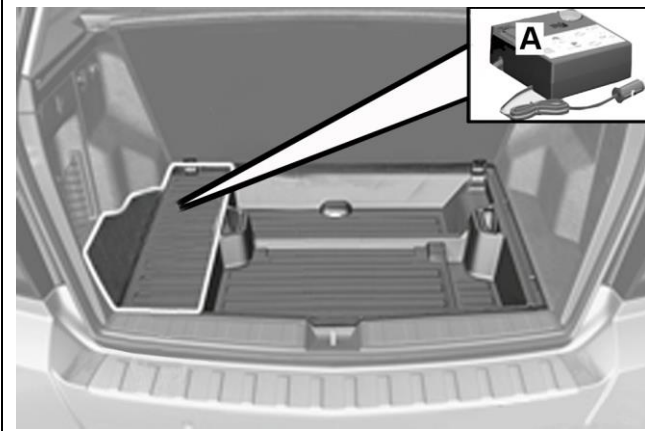

Figure 1
2. Check if complete Tire Fit kit consisting of: Air pump (A, Figure 1) and tire sealant container (B) is installed in luggage compartment:
- If **both** air pump (A, Figure 1) and tire sealant container (B) are installed, proceed to step 4.
- If air pump (A, Figure 1) and/or tire sealant container (B) are missing proceed to step 3.
- If **both** air pump (A, Figure 1) and tire sealant container (B) are installed, Proceed to step 4.
- If air pump (A, Figure 1) and/or tire sealant container (B) are missing proceed to step 3